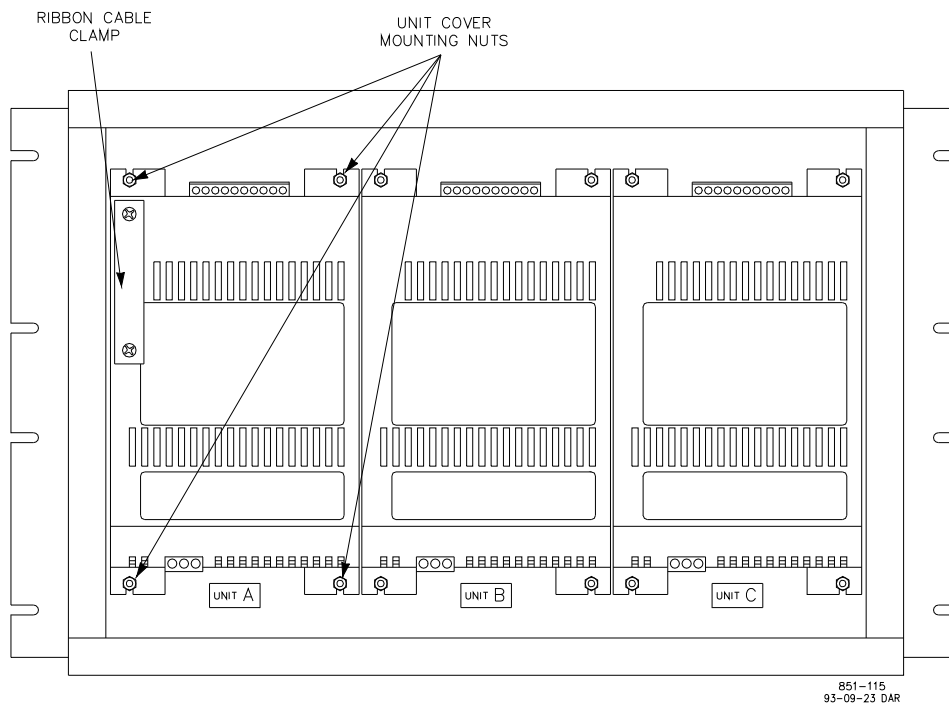

Figure 5-2. Unit Covers Inside the ProTech Device
- If you're replacing a fuse in Unit A, remove the ribbon-cable clamp and retain for use when re-installing the cover (Figure 5-2).
4. Unplug the power supply board terminal block, then unplug the I/O board terminal block (Figure 5-2).
5. Remove the four nuts on the unit's cover, and carefully lift the cover off (Figure 5-2). Retain the cover and the nuts to be reinstalled after changing the fuse.
9. If you've been working on Unit A, replace the ribbon-cable clamp onto the cover (Figure 5-2).
3. If you're replacing Unit A, remove the ribbon-cable clamp and retain for use when installing the replacement unit (Figure 5-2).
5. Remove the four nuts on the unit's cover, and carefully lift the cover off (Figure 5-2). Retain the cover and the nuts to be reinstalled with the replacement unit.
13. If you've replaced Unit A, replace the ribbon-cable clamp onto the cover (Figure 5-2).